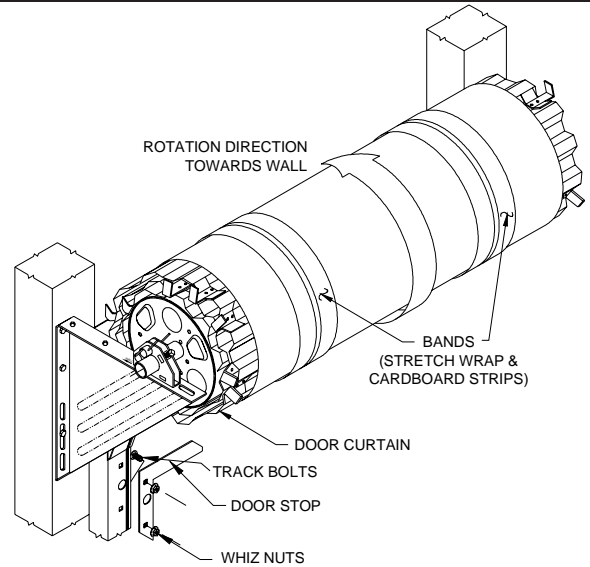

**Figure 6.**
7.1 Position the guides against the jambs according to the clearance shown in Figure 4 (Figure 5 if windlock model). Loosely fasten the guides to allow slight adjustment (guides on doors 14'-10" and taller will have a splice). **DO NOT** install the remaining fasteners until such time as the adjustment is true. Level one guide and loosely install a second fastener in the bottom hole. If mounting to masonry, install clips provided as shown in Figure 6. Align the clips with the holes along the length of the guide and flush with the back of the guide. (Anchors by others).